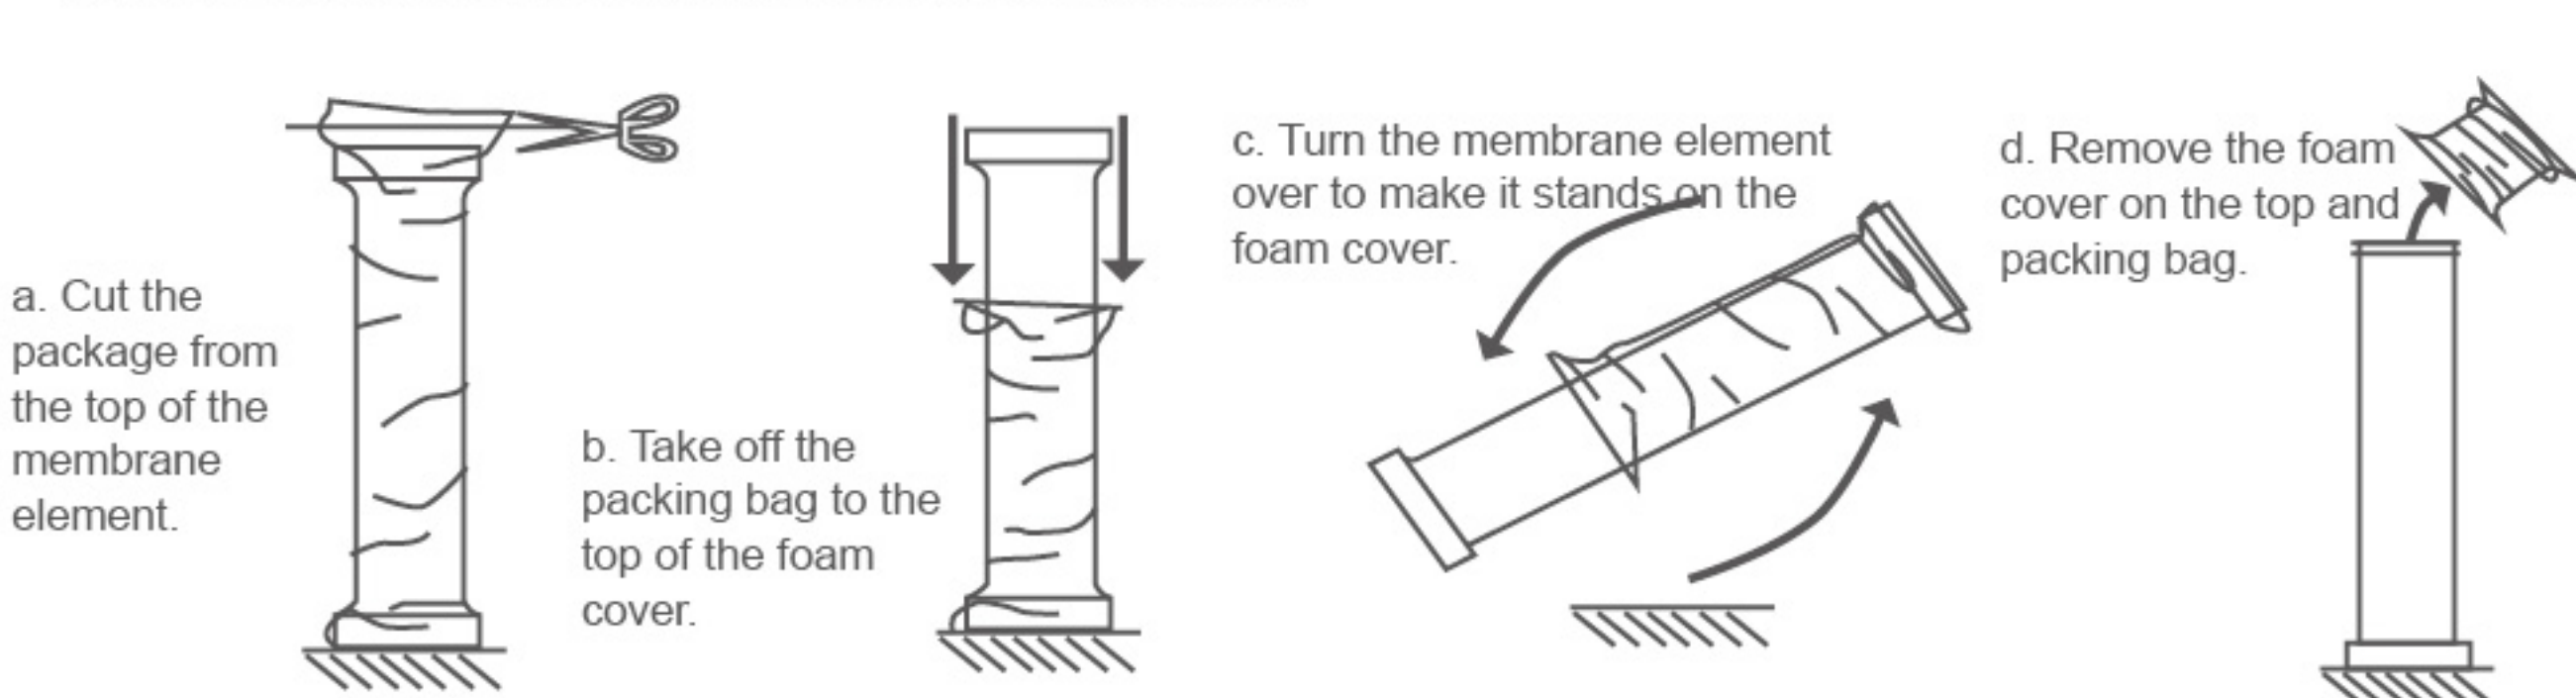

Figure 3
5. Open the membrane package and prepare to fill (Figure 3).